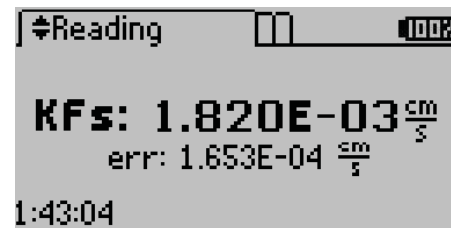

Figure 18 Results screen
- **Results Screen.** After a test is complete, the Results screen replaces the Status screen. It shows the resulting K_{fs} of the test (Figure 18). The error (err) value also appears on the Results screen. The err is the standard error of the K_{fs} reading and represents the amount of noise in the measurement. Press UP and DOWN to change Reading screens or press the POWER/MENU button to navigate to the Configuration tab.